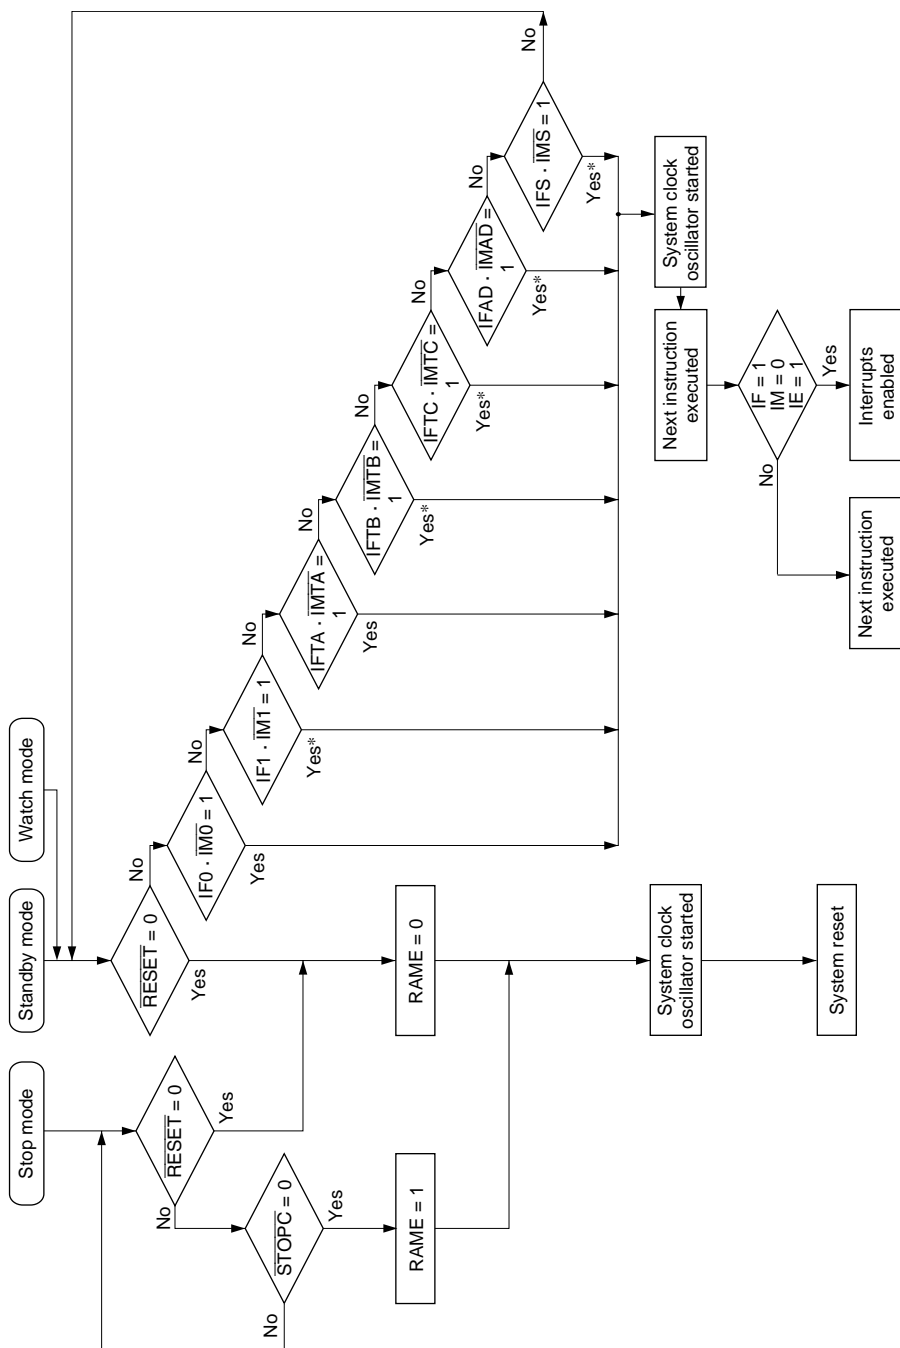

Figure 6-3 Flowchart for Exiting Low Power Modes
(1) Clearing with a $\overline{\text{RESET}}$ Pin Input: When the $\overline{\text{RESET}}$ pin goes low the system enters the reset state and standby mode is cleared.
(2) Clearing with an Interrupt: Standby mode is cleared and the system enters active mode when an interrupt occurs with its corresponding interrupt flag (IF) set to 1 and its interrupt mask (IM) cleared to 0. After the transition the instruction following the SBY instruction is executed. If the interrupt enable flag (IE) is 1, the corresponding interrupt handler will be executed. If IE is 0, the interrupt is deferred and the execution of the immediately preceding instruction sequence continues. Figure 6-3 shows the flowchart for the sequence that occurs when low power modes are cleared.
(1) Clearing with a $\overline{\text{RESET}}$ Pin Input: When the $\overline{\text{RESET}}$ pin goes low the system enters the reset state and watch mode is cleared.
(2) Clearing with an $\overline{\text{INT}}_0$ or Timer A Interrupt: Watch mode is cleared when an $\overline{\text{INT}}_0$ or timer A interrupt occurs and the corresponding IF is 1 and IM is 0. If LSON was 0 at that time the system switches to active mode, and if LSON was 1, the system switches to subactive mode.
After the transition the instruction following the STOP or SBY instruction is executed. If the interrupt enable flag (IE) is 1, the corresponding interrupt handler will be executed. If IE is 0, the interrupt is deferred and the execution of the immediately preceding instruction sequence continues. (See figure 6-3.)
Note: See figure 6-3, “Flowchart for Exiting Low Power Modes”, for details on IF and IM operation.